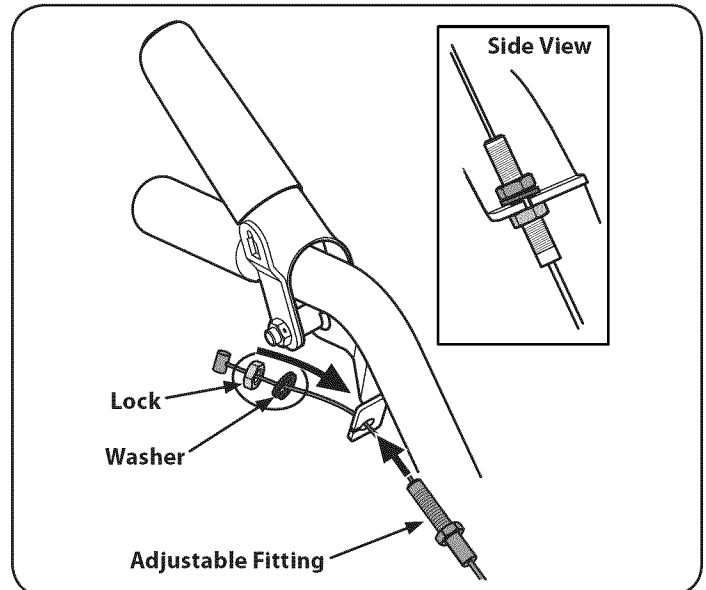

Figure 6
1. Loosen the upper nut on the cable and slide the nut and washer off the adjustable fitting. See Figure 6.
2. Slide the cable into the cable bracket as shown in Figure 6.